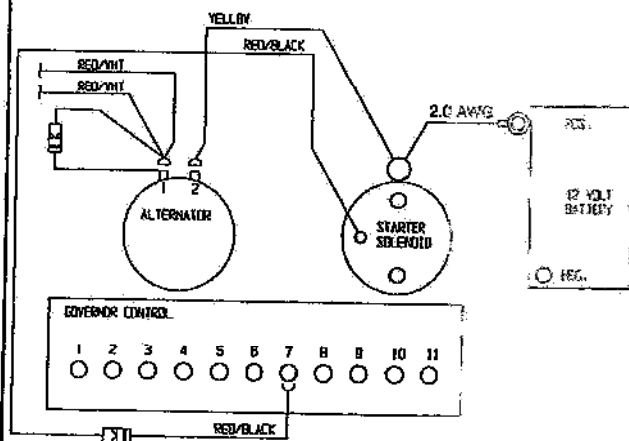

Figure 5
7. Route unattached end of newly installed Yellow Wire Assembly (#030948-002) through the protective plastic cover to the starter and attach to large terminal (bottom) of the solenoid (where battery cable is connected). See Figure 5.
8. Attach #10 Ring Connector of the Red/Black Wire Assembly with Diode (#030948-001) to the start position (small post) of the starter solenoid. Do not remove existing wires. See Figure 5.